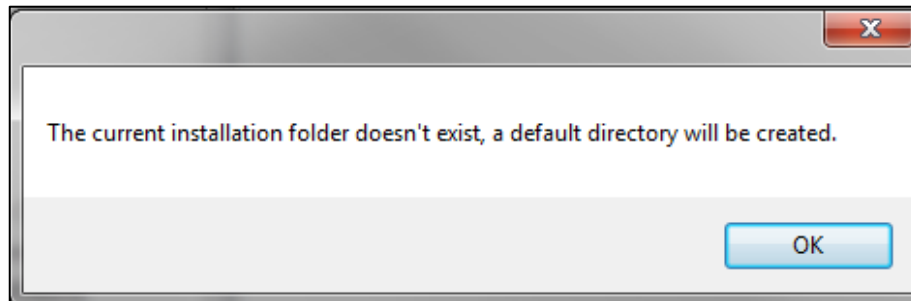

Figure 2: Message telling you the default installation folder does not exist.
- **Installation folder not found:** refer to *Figure 2: Message telling you the default installation folder does not exist.*